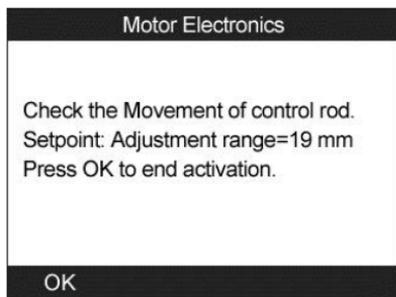

Figure 13-37
- b) Select **OK** to activate swirl flaps and the tool displays as below. (Figure 13-37) Press **OK** button to end the activation and exit.